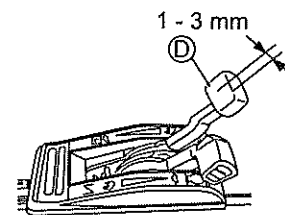

Fig. 27.
Adjust the play of Gearshift lever (D) to 1 - 3 mm as shown in Fig. 27.
- 3 Start the engine and confirm that running speed changes when Gearshift lever (D) is operated.